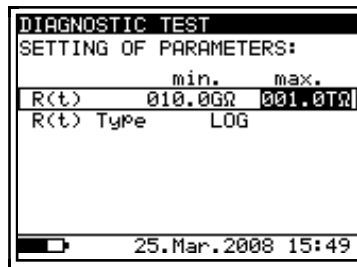

Fig. 21. Set-up menu of the Graph R(t)
- Press the SELECT key to Set-up the parameters of the graph R(t), see the Fig. 21. Press the ESC key to return to basic Set-up menu in the Diagnostic Test function.